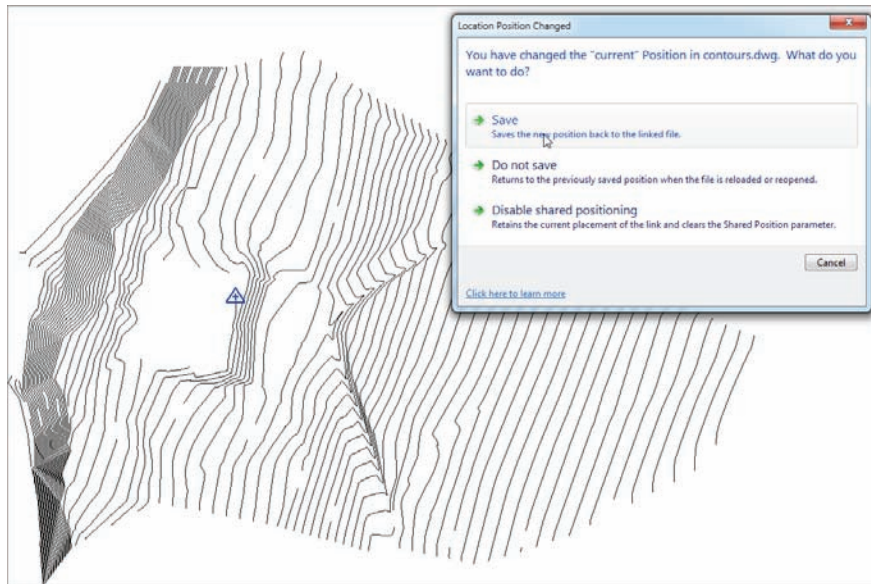

FIGURE 18.33 Saving the shared position back to the drawing
3. Move the site similar to the position shown in Figure 18.33.
5. Click the Save choice. Doing so adds a new position in the site .dwg file. You're now coordinated with your site people. (See Figure 18.33.)